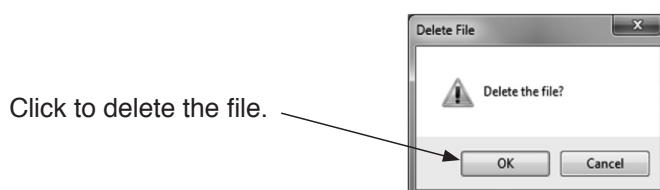

Fig.178
- ④ After the click, the selected file will open, and a message box (Fig. 178) will be displayed. To delete, click the "Yes (Y)" button. To not delete, click the "No (N)" button. After the "Yes (Y)" button is clicked, the file will be deleted.